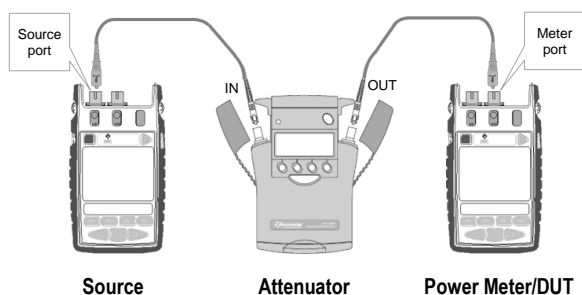

Figure 8. Test set-up for the Power Meter section Accuracy Test
1. Connect the equipment as shown in Figure 8: